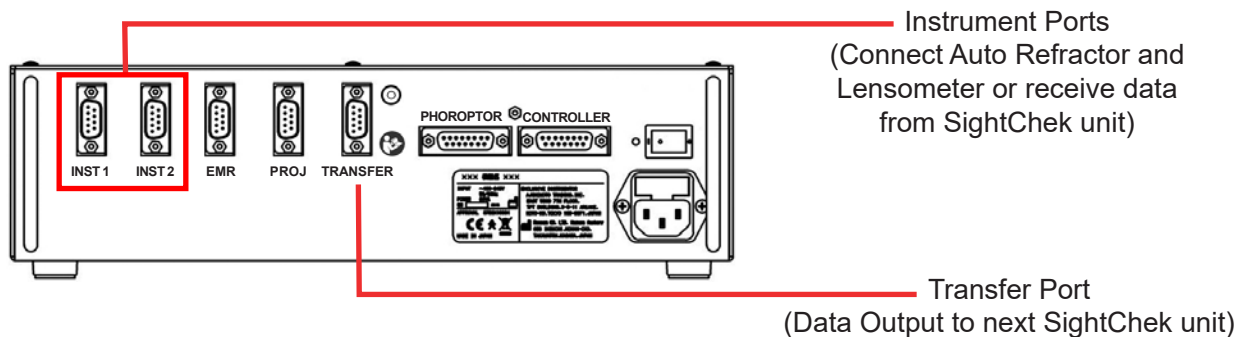

Figure IS-26 Multiple SightChek Systems Set-Up
2. Connect the Relay Box of the first SightChek to the Relay Box of the SightChek next in line, using a cable or Bluetooth dongle connection, according to the cables specified in **Appendix A**. The Transfer port on the first SightChek is the data output port, and the Inst1 port on the next SightChek receives the data. Refer to Figure IS-26.